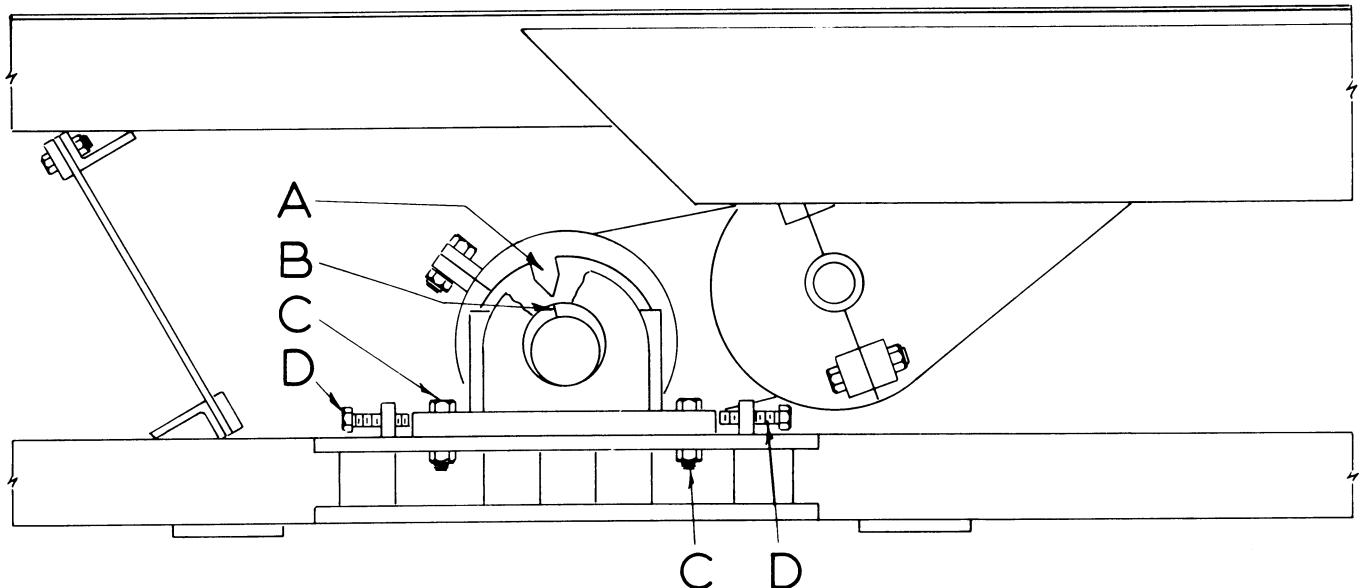

Fig.1
6. Check timing. If unit is not in time, follow procedure "Timing Vibrating Conveyor". (Fig. 1)
TIMING VIBRATING CONVEYOR (See Fig. 1)
1. Set eccentric housing in place and assemble clamp around bushing (F). Do not tighten bolts (E) at this point.
2. Make sure that bolts (C) and (D) are loose.
3. Line-up Timing Mark (B) with bushing (F) (see diagram).
4. Tighten bolts (E). Bushing (F) should now be clamped in place.
5. After the above has been accomplished, the unit must now be Timed. See section on "Timing Vibrating Conveyor" (Fig. 1)